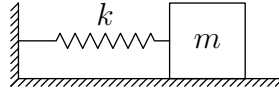

Figure 2: A simple spring–mass system.
8. (optional) A spring–mass system as shown in Figure 2 can be modeled by the following second order ODE, under certain simplifying assumptions (e.g., small displacement, spring has no mass, no friction, etc.):